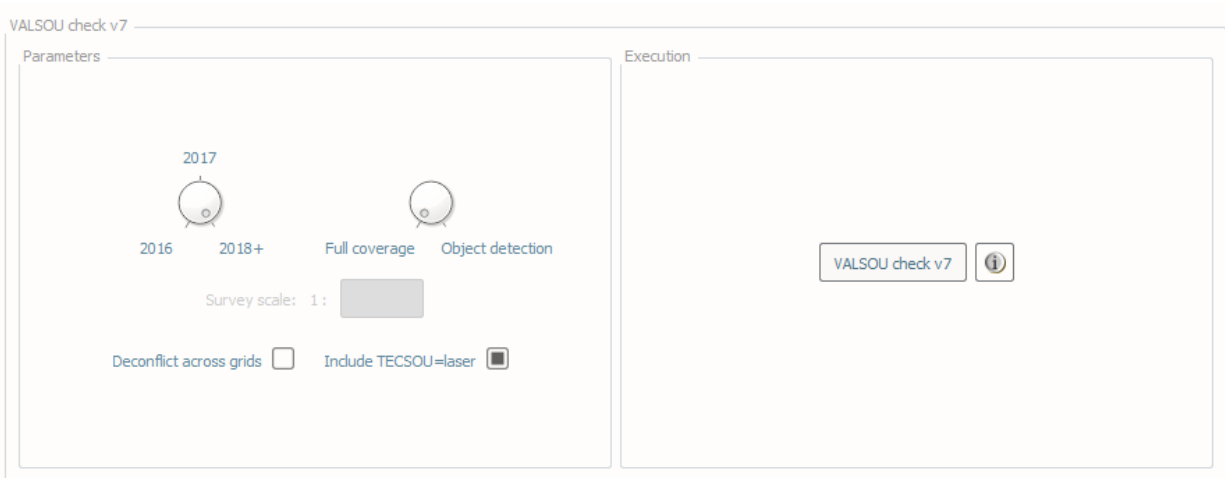

Fig. 2.27: The **VALSOU check** tab.
- Select the **VALSOU check** tab (Fig. 2.27) on the bottom of the QC Tools interface.